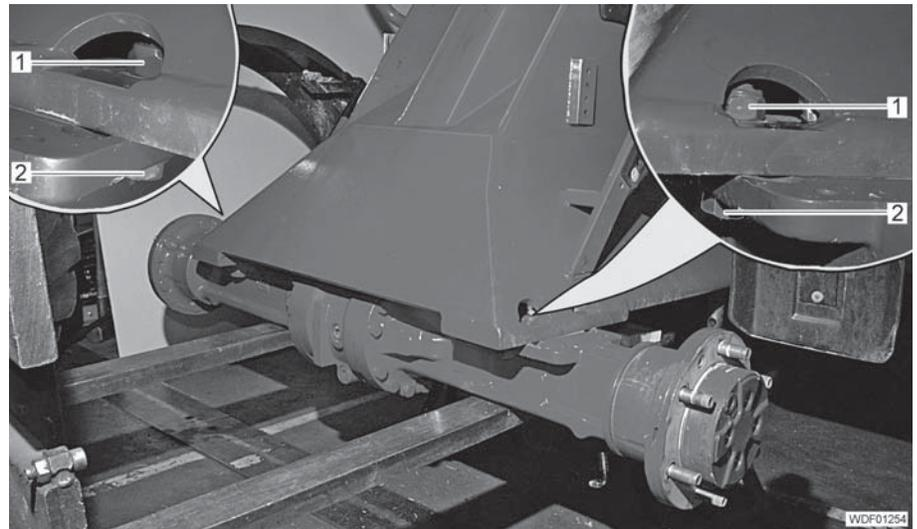

Fig. 242 Front axle support
- Insert the 4 screws (Fig. 242,2) with washers through the holes from below.
- Screw on 4 nuts (Fig. 242,1) with washers onto the screws and tighten with a tightening torque of 390 Nm.